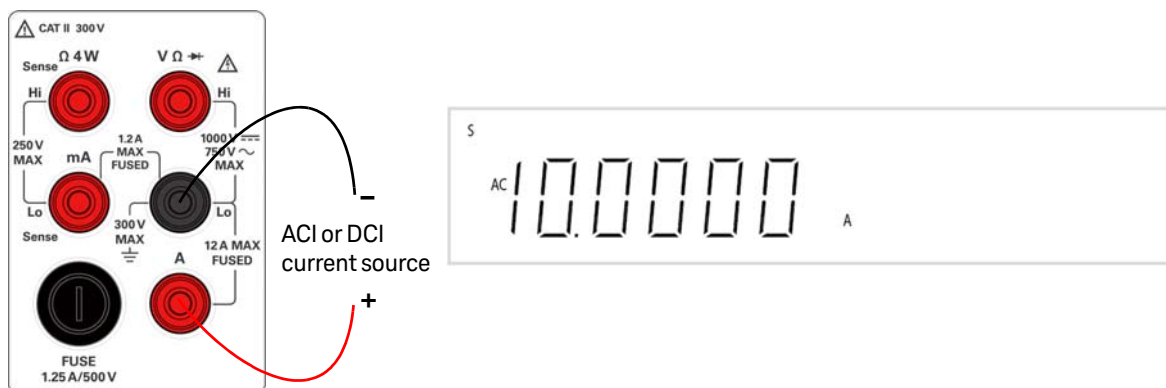

Figure 1-13 ACI RMS or DCI (A) terminal connection and display
- 3 Connect the red and black test leads to the A input terminal as shown in Figure 1-13.